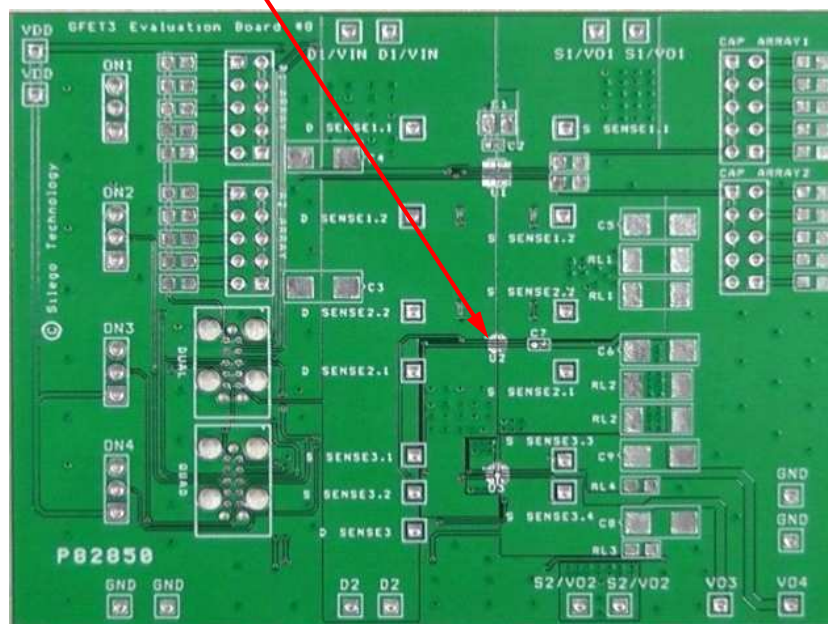

Figure 1. SLG59M1639V Evaluation Board
1. Since the VIN[1,2] and VOUT[1,2] pins dissipate most of the heat generated during high-load current operation, it is highly recommended to make power traces as short, direct, and wide as possible. A good practice is to make power traces with an absolute minimum widths of 15 mils (0.381 mm) per Ampere. A representative layout, shown in Figure 1, illustrates proper techniques for heat to transfer as efficiently as possible out of the device;
A GreenFET Evaluation Board for SLG59M1639V is designed according to the statements above and is illustrated on Figure 1. Please note that evaluation board has D_Sense and S_Sense pads. They cannot carry high currents and dedicated only for $R_{DS(on)}$ evaluation.